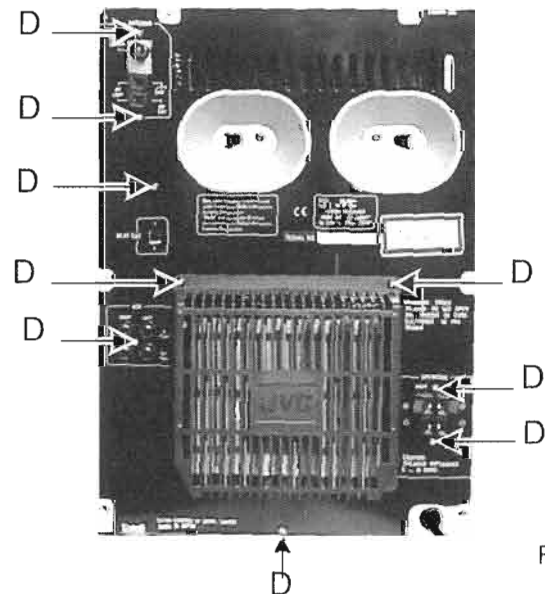

Fig.5
1. Remove 9 screws(D)fastening rear side and remove the heat sink cover(Fig. 5).